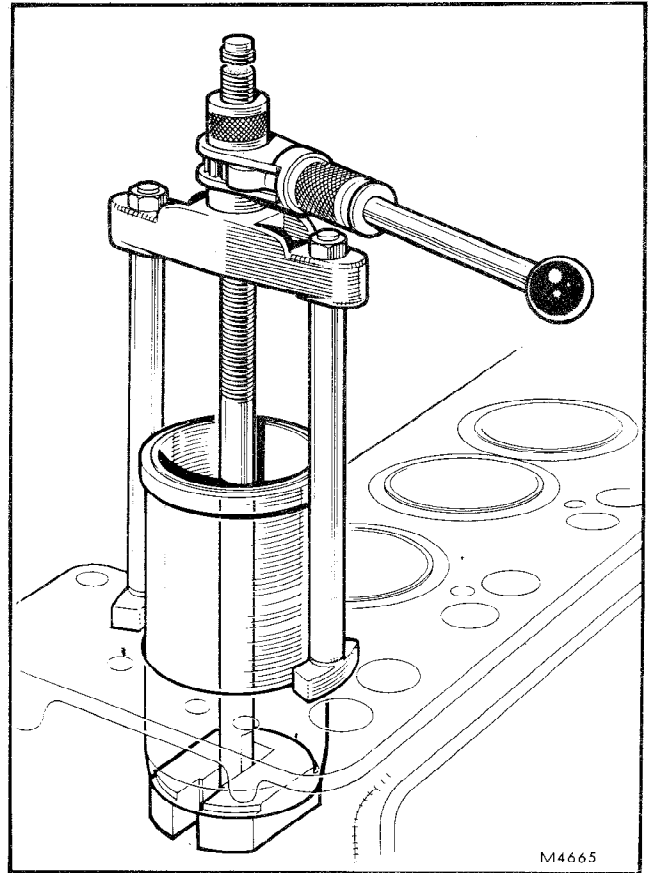

Fig. 1
25. Withdraw the cylinder liner from the top of the cylinder block, using tool 18G 227 E, refer to Fig. 1.